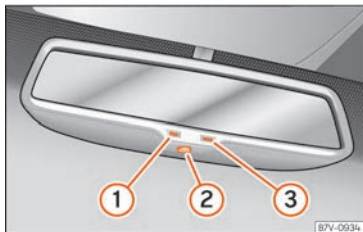

Fig. 151 Automatic anti-dazzle function for rear vision mirror
Key to **Fig. 151**:
- ① Control lamp
- ② Control
- ③ Light incidence sensor
This function can be activated and deactivated by pressing the rear-view mirror switch »» **Fig. 151** ②. When it is activated, the warning lamp lights up ①.